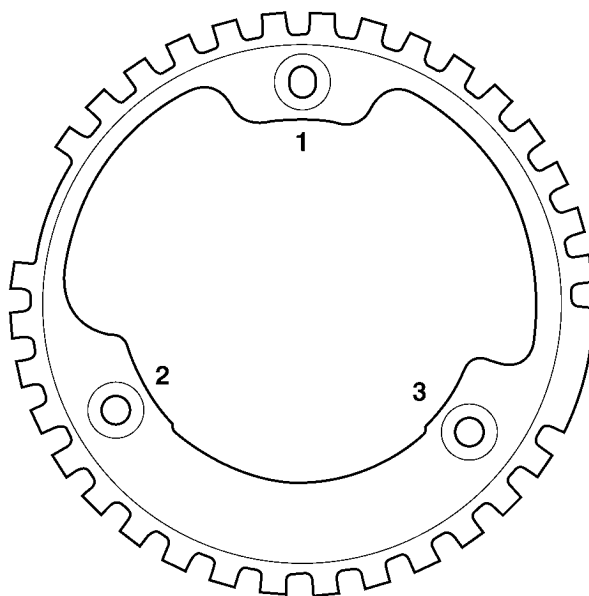

Fig. 60 Target Ring Torque Sequence
(4) Install **NEW** mounting screws finger tight starting with the #1 location. (Fig. 60) Make sure engagement occurs with the shoulder of the screw and mounting hole before starting all other screws.
(5) Torque all mounting screws with T30 torx bit to 13 N·m (110 in-lbs) following the torque sequence.